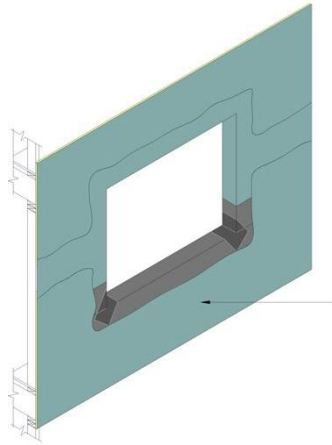

Fig. 12
- 4) Install the specified component (i.e. window, etc.) and associated flashings per manufacturer's directions and contract documents. Then apply Backstop NTX – Texture or Smooth to the remainder of the wall surface as described in Section VI and lap over the previously installed material (do not lap over Flashing Tape if specified) around openings – Figure 12..